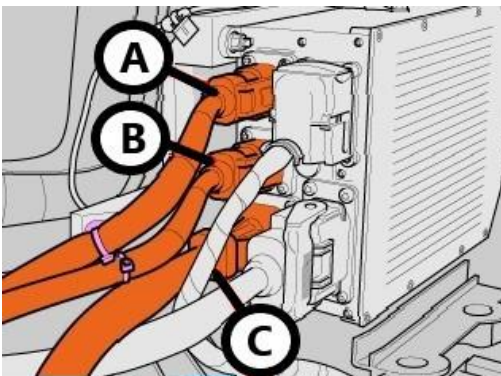

Figure 2
- Referring to Figure 2 (Points A,B and C) Check and confirm the primary and secondary latches are fully locked in position